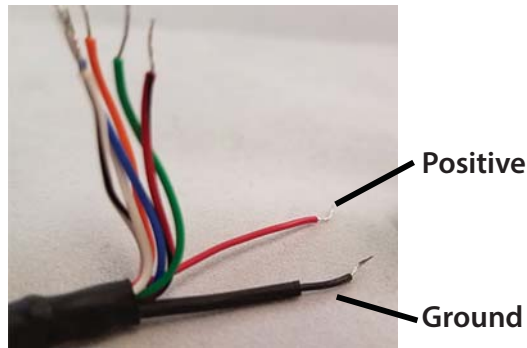

Figure 2-14. Separate Flying Leads Wires (Positive/Negative)
2. Separate the wires on the Flying Leads cable so the red (V_{IN}) and black (V_{IN} GND) wires are exposed, as shown in Figure 2-14.